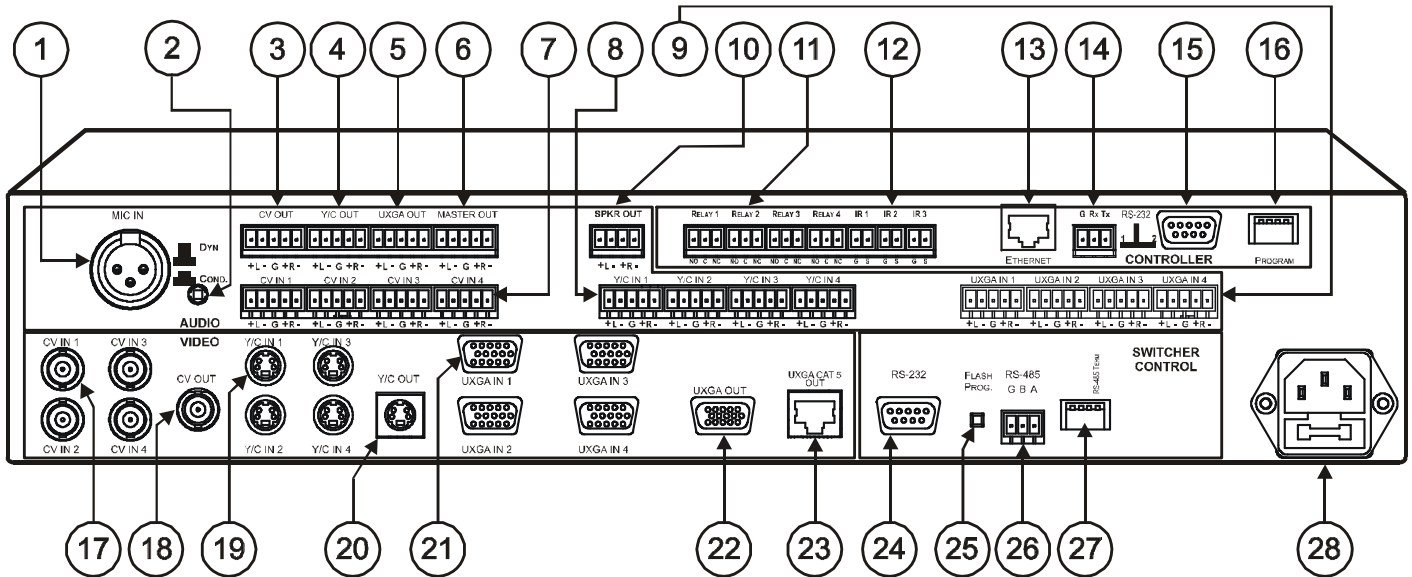

Figure 3: VP-23RC Presentation Switcher / Controller – Rear View
⁵ The RS-232 terminal block port (item 14 in Figure 3) is also used for firmware upgrade
1 The RS-232 port (item 24 in Figure 3) located in the SWITCHER CONTROL area of the rear panel
Figure 3 and Table 3 define the rear panel of the **VP-23RC**.
⁷ Use the Con / Dyn switch (refer to the rear panel, item 2 in Figure 3) to select a dynamic microphone or a condenser